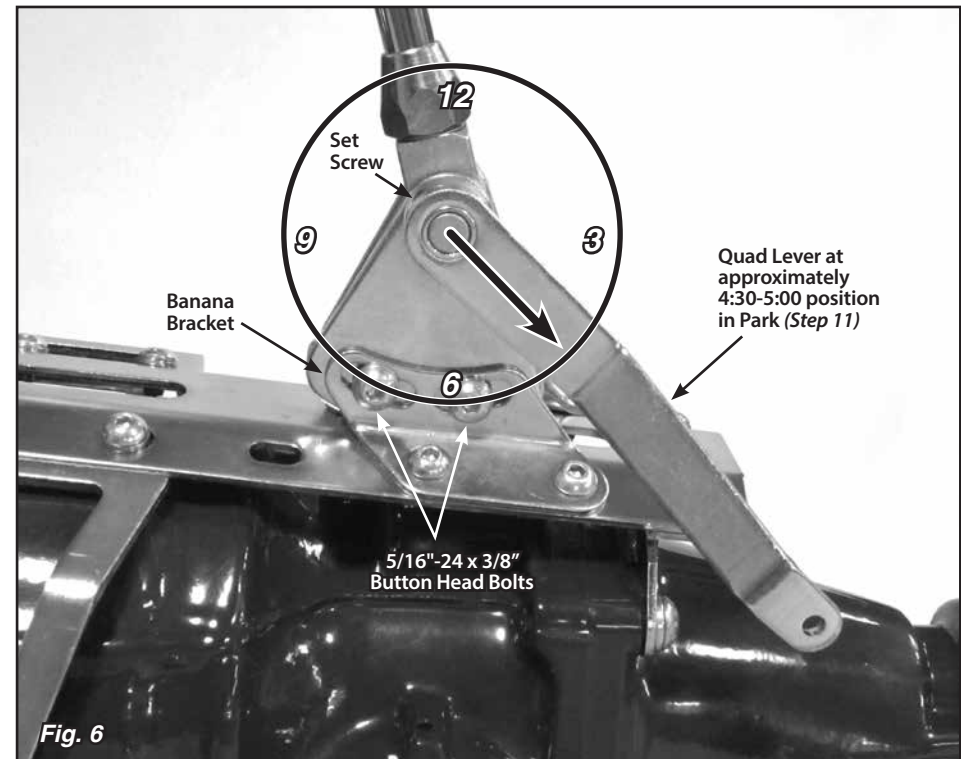

Fig. 6
**Step 10:** Make sure the two 5/16"-24 x 3/8" button head bolts that attach the left side banana bracket to the shifter assembly (in the curved, slotted holes) are tight. Before tightening the shifter assembly down to the main plate, move the shifter lever through all the gear positions. Make sure that the shifter lever and knob do not come in contact with the dash or the seat. The shifter assembly can be tilted forward or backward if needed by loosening the 5/16"-24 x 3/8" button head bolts in the curved, slotted holes in the left side banana bracket. **Fig. 6**
**Step 11:** Put the shifter lever into the Park position and check the position of the quad lever. It will need to be pointing to about the 4:30 - 5:00 position. If it is not, loosen the set screw in the top of the quad lever with a 1/8" Allen wrench and slide the quad lever off of the shaft. Reposition it on the shaft at approximately the 4:30 - 5:00 position, and retighten the set screw. **Fig. 6**
Double check to make sure that the bolts connecting the **left** side banana bracket to the shifter assembly are tight. **Fig. 6**